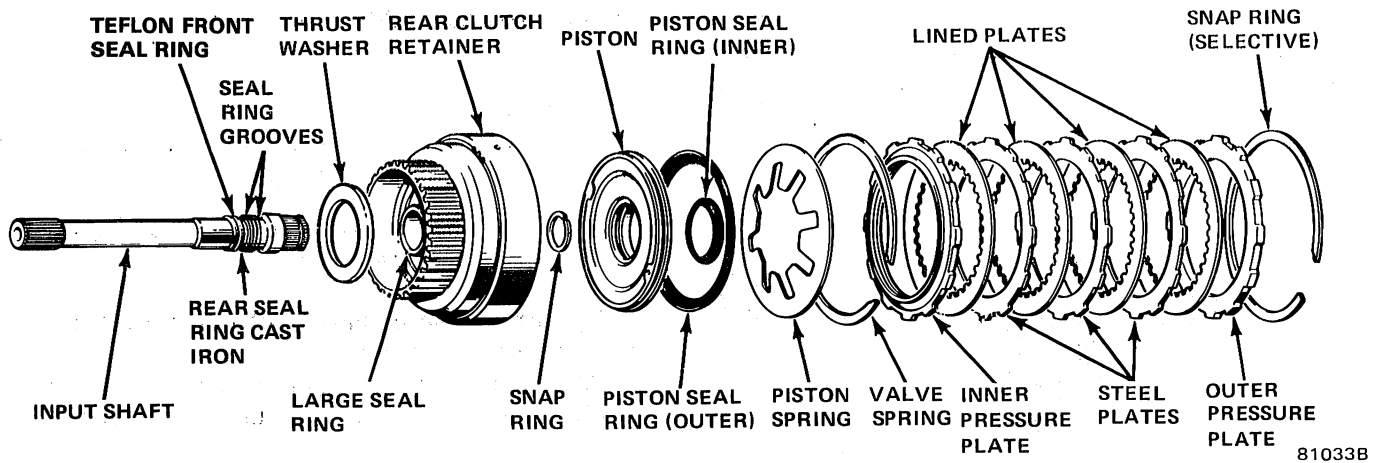

Fig. 2C-77 Rear Clutch Assembly—Model 999
(4) Install one end of wave spring into retainer groove (fig. 2C-78) and progressively push or tap spring into place until completely seated. If necessary, lightly tap piston spring to keep it centered.
(5) Install inner pressure plate. Raised side of plate should rest on piston spring and flat surface should face open end of retainer.
(6) Lubricate clutch plates with transmission fluid.
(7) Install a lined plate first and follow with a steel plate and a lined plate until correct number of plates are installed.
(8) Install outer pressure plate and selective thickness snap ring.